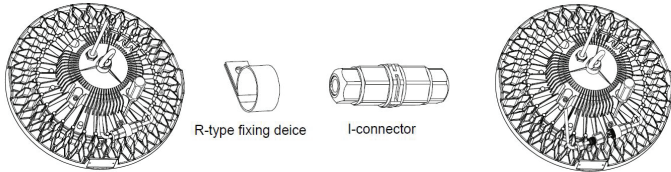

Figure 15
1. Loosen the fixing screw on the R-type fixing device which is used to fix the i-connector head with an internal hexagon screw driver, and then remove the R-type fixing device as shown in Figure 15.